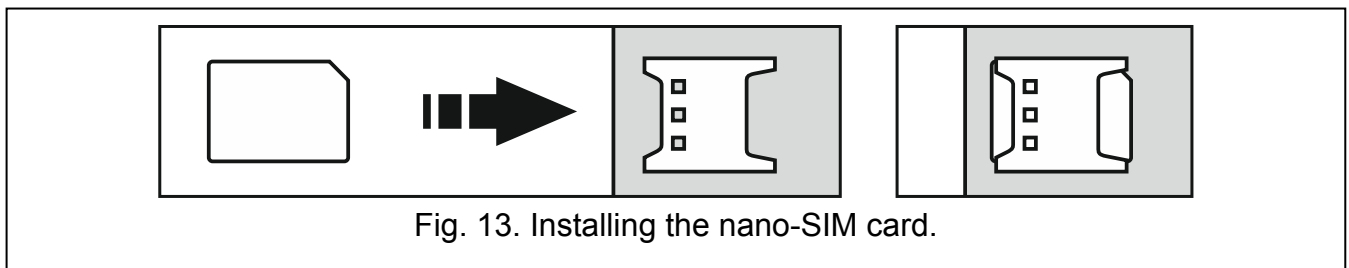

Fig. 13. Installing the nano-SIM card.
3. Insert the SIM card / cards into the socket / sockets (Fig. 13).